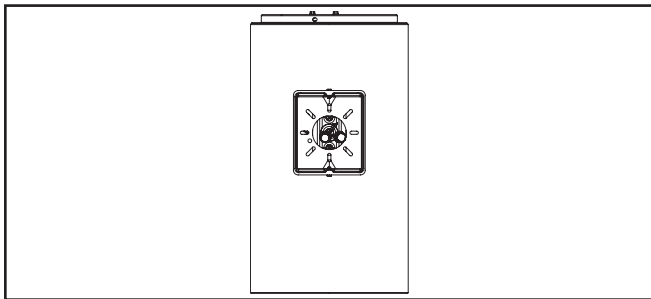

Figure 1.
1. Install wall mounting plate to splice box using splice box hardware (provided by others) and tighten to 17 IN/ LBS torque when using 8-32 screw (Figure 1).